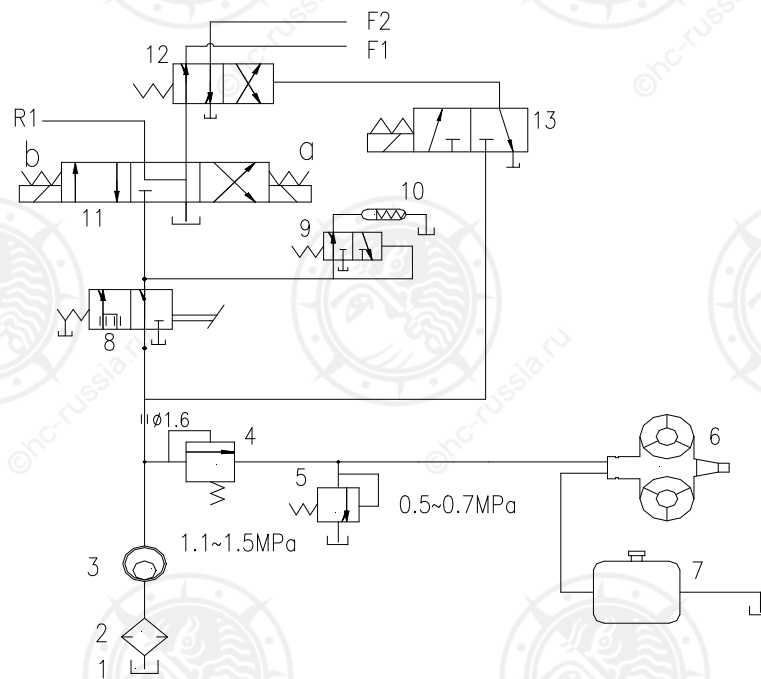

Fig.2-2-2 Oil route principle chart of XYQX45D model hydrodynamic power transmission gear-box
1.4.2 Oil pipes principles (Refer to fig. 2-2-2)
The oil for hydrodynamic power clutch(F1、F2、R) flows into main-pressure valve 4 (pressure at 1.2-1.5Mpa), then separate itself into two parts, the one part into inching valve 8 and shift-control valve 13, the others into overflow valve 5 (pressure at 0.5-0.7Mpa) and supply for the blade wheel of torque converter, The oil, from the torque converter, is cooled when passing through the radiator, then it lubricates the hydrodynamic power clutch(include frictional piece, bearing and gears).The oil pipe principle for hydrodynamic power transmission gear-box can be seen in fig. 2-2-2.